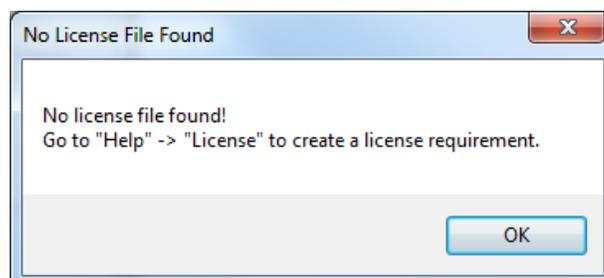

Figure 3.10. No License File Found Dialog
5. A dialog pops up as shown in Figure 3.10. Click OK.
- No License File Found dialog pops up as shown in Figure 3.10. Click OK. After that, the Help → License menu item is enabled (Figure 3.15).